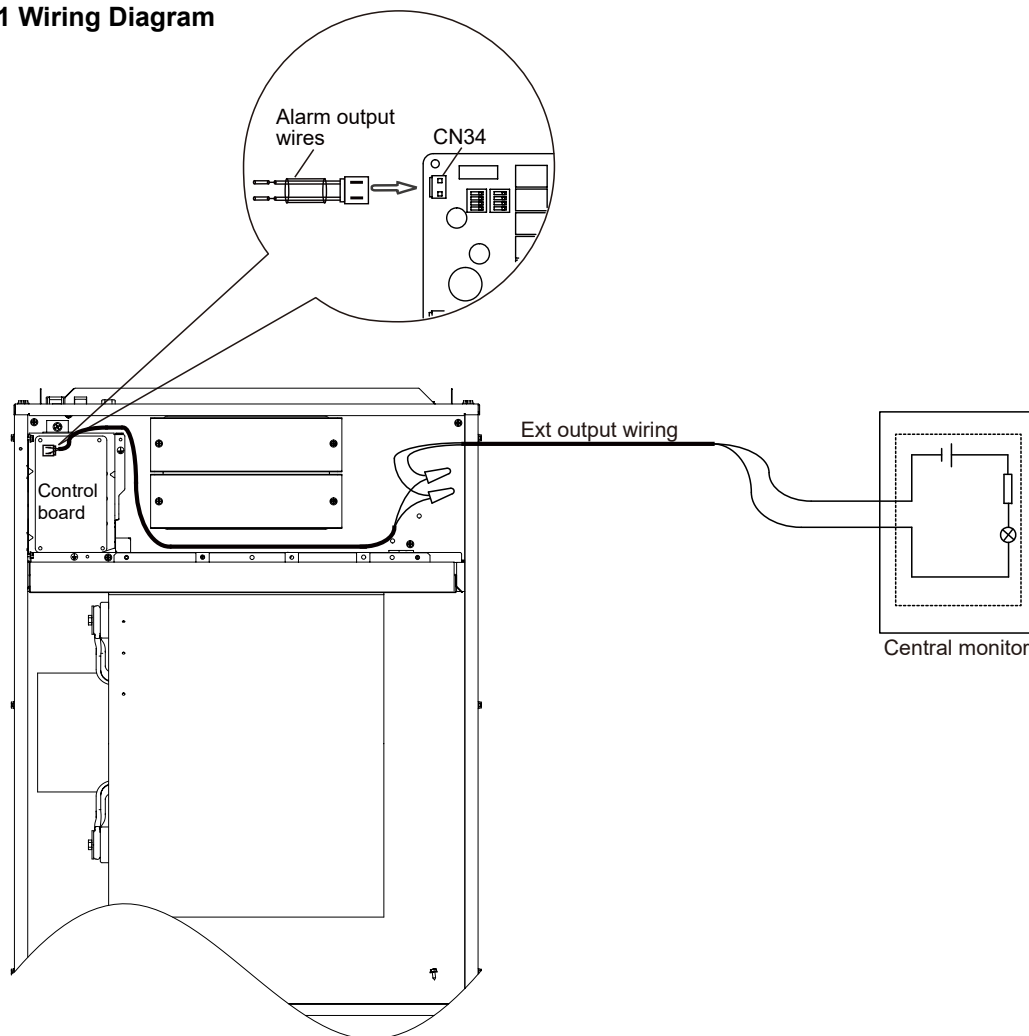

Fig.9-9
Step 1 : Take out the Alarm wires from the accessory bag and plug it into CN34 on the control board (see Fig.9-9).
Step 2 : Connect the Alarm wires with the central monitor (see Fig.9-9).